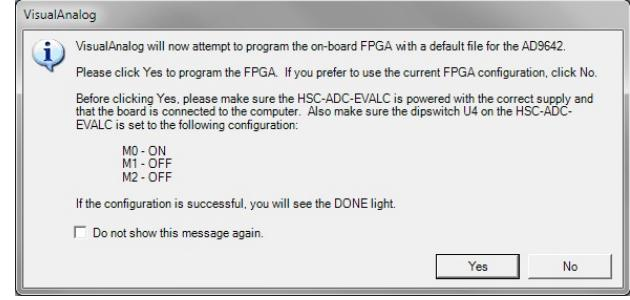

Figure 5. VisualAnalog Default Configuration Message
2. After the template is selected, a message appears asking if the default configuration can be used to program the FPGA (see Figure 5). Click Yes, and the window closes.